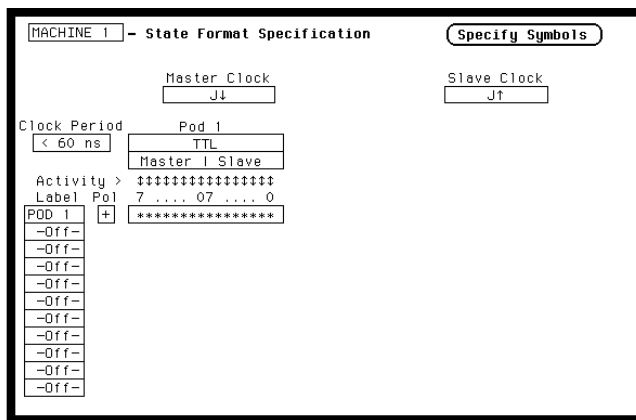

Figure 3-27. State Format Specification for Data Test 6
4. Set up **State Format Specification** as in figure 3-27, assigning the falling J clock as **Master Clock** and the rising J clock as **Slave Clock**. Refer to steps a through d after figure if unfamiliar with the menus.